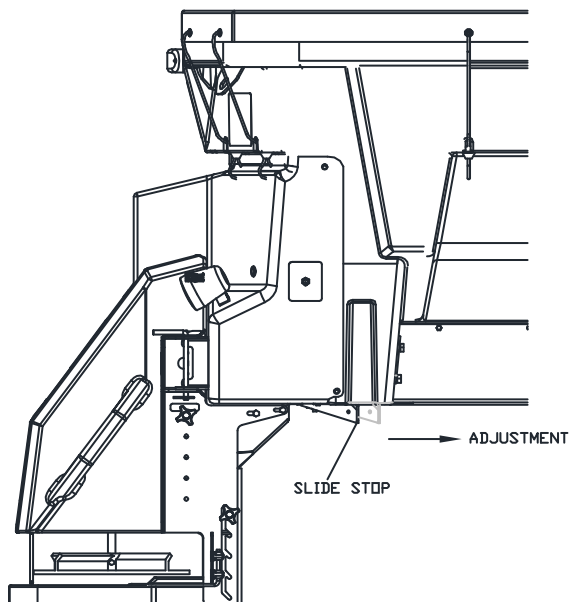

Figure 9. Slide Stop Adjustment G10775
3. Slide spreader out to desired position (1" increments are available). See Figure 9.